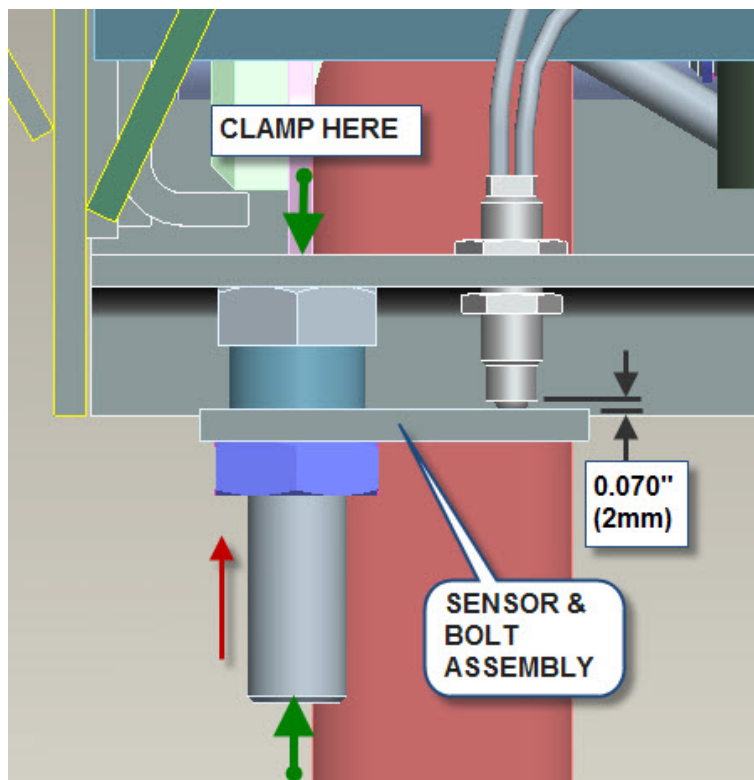

Figure 20- Adjusting the proxy sensor.
4. Press the assembly against the switch mounting angle and clamp in place (Figure 20).
5. Adjust the sensor to a gap of 0.070" (2mm) between the body of the pneumatic switch and sensor plate (Figure 20). The ball at the tip of the switch requires a compression of 0.030" to engage. (A 1/16" shim may be used).